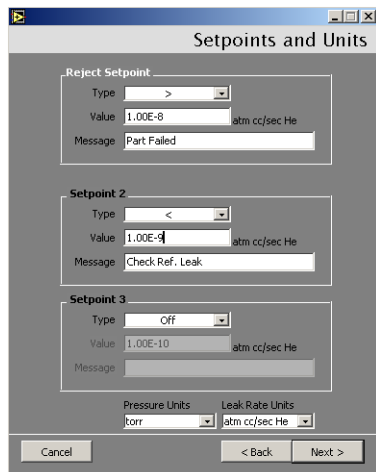

Figure 2-41 Setpoints and Units
- 6. Enter a *Part Description*, click **Pressurized Part**, which activates the radio buttons below, click **Location/Accumulation** and click **Next** and Figure 2-41 appears.